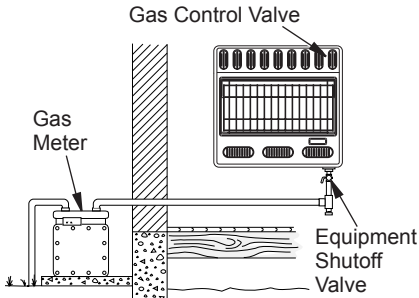
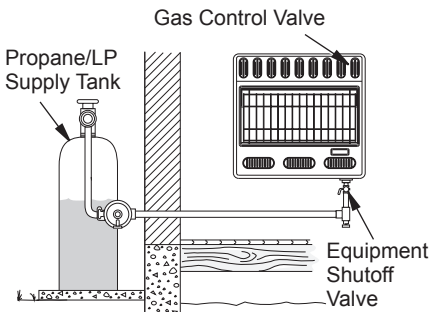

Figure 19 - Checking Gas Joints for Natural Gas
Figure 20 - Checking Gas Joints for Propane/LP Gas
3. Check all joints from gas meter for natural gas (see Figure 19) or propane/LP supply tank for propane/LP gas, to equipment shutoff valve (see Figure 20). Apply a noncorrosive leak detection fluid to all joints. Bubbles forming show a leak.
4. Check all joints from equipment shutoff valve to thermostat gas valve (see Figure 19 or 20). Apply a noncorrosive leak detection fluid to all joints. Bubbles forming show a leak.